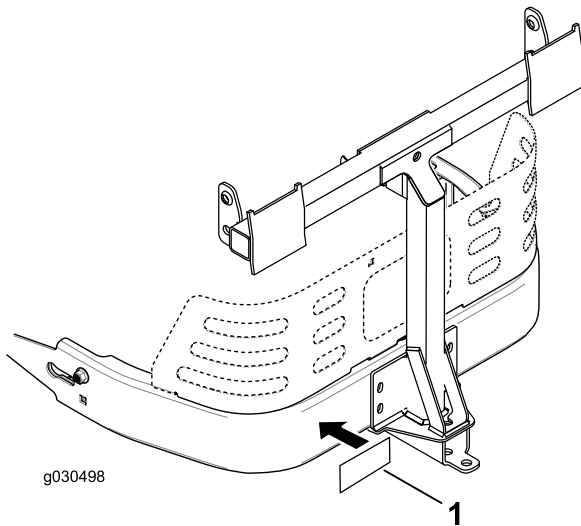

Figure 17
3. Attach the draw-bar decal 1.3 cm (1/2 inch) to the left of the attachment mount (Figure 17).